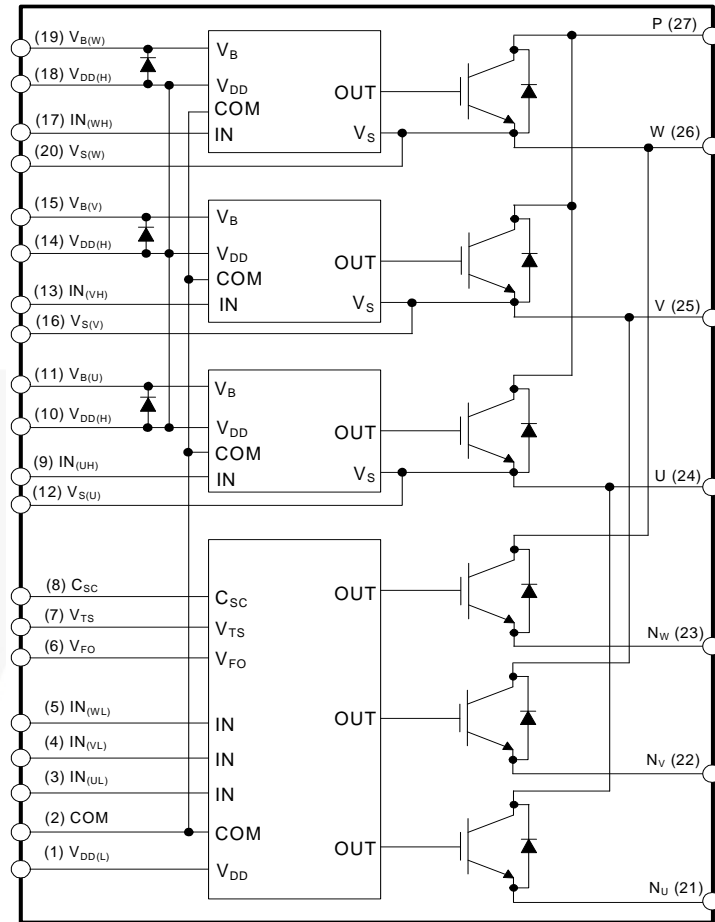

Figure 3. Internal Block Diagram
- 600 V - 30 A IGBT inverter for three-phase DC/ AC power conversion (Please refer to Figure 3)